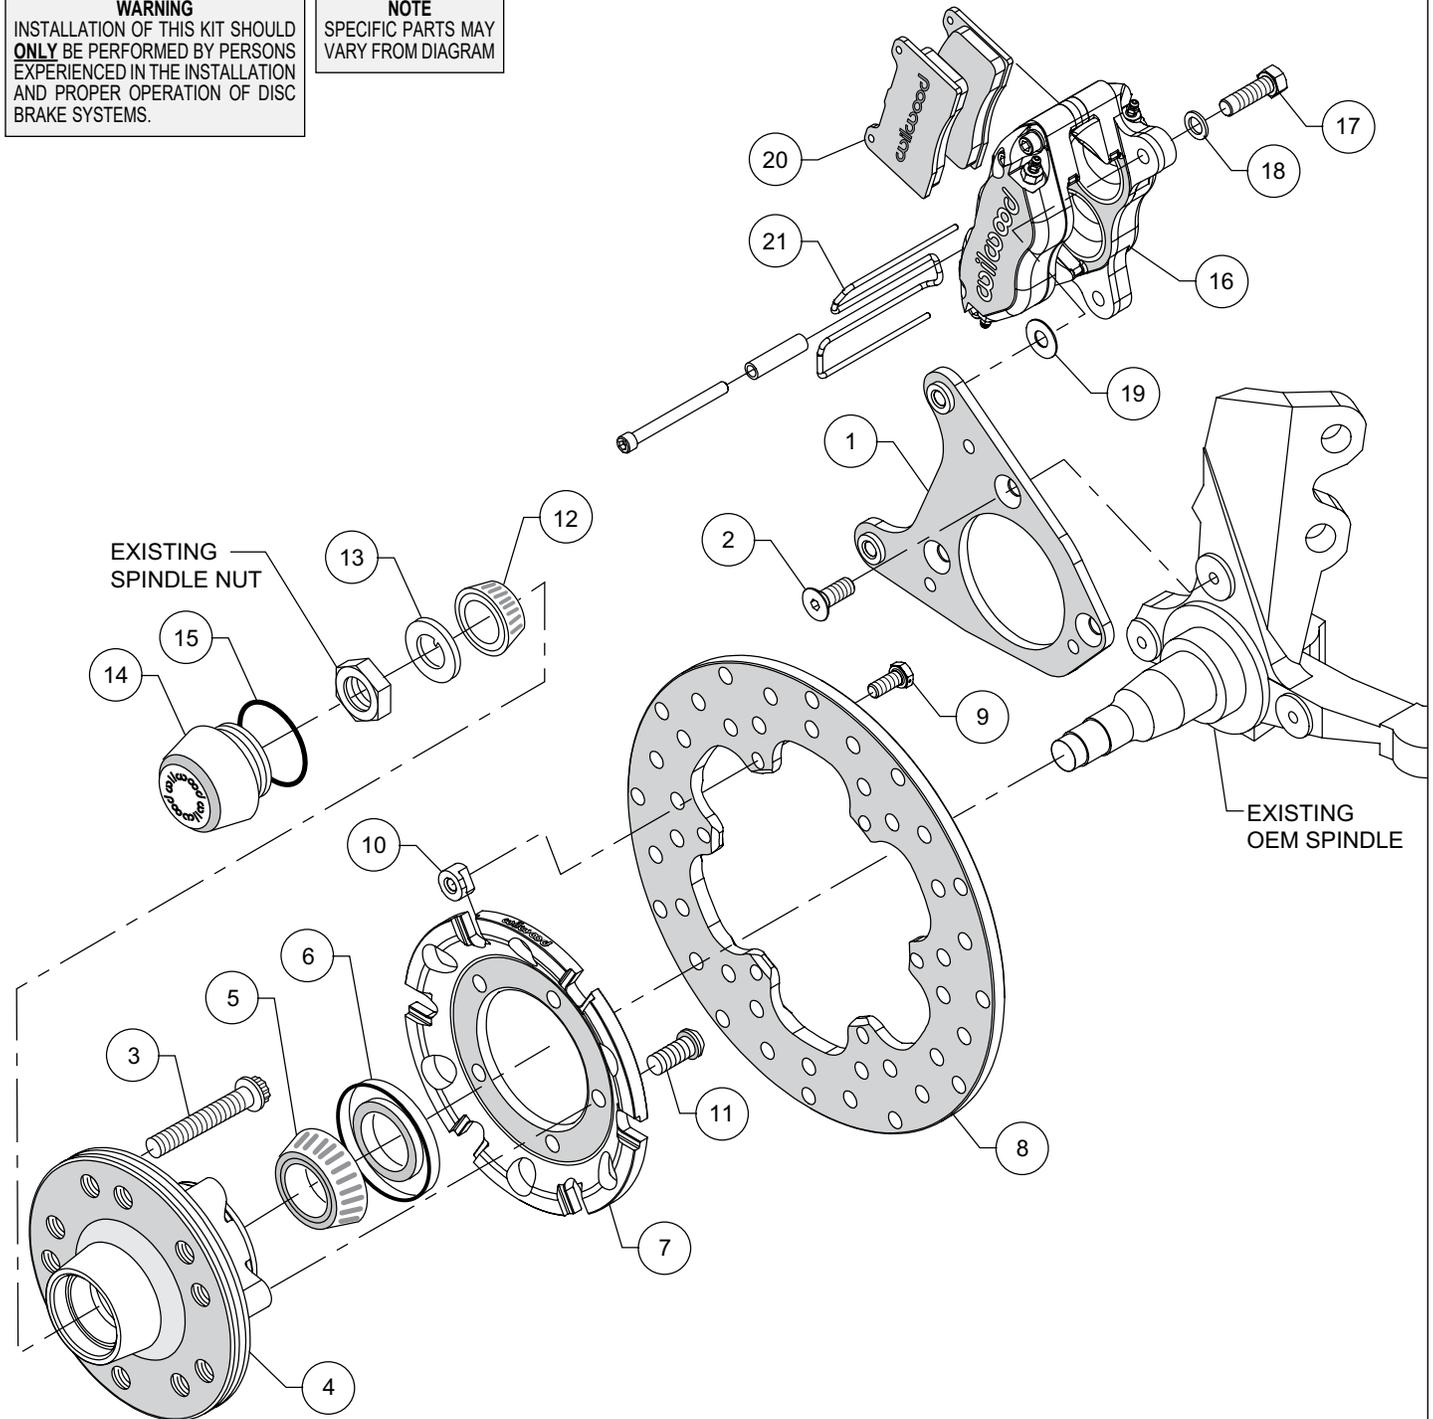
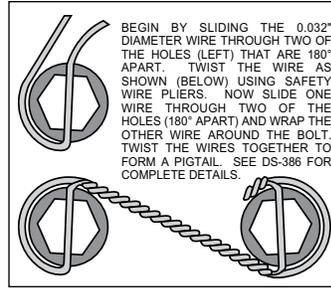

Figure 1. Typical Installation Configuration
Figure 4. Safety Wire Diagram
NOTE: Numbers in parenthesis refer to the parts list and Figure 1 on the preceding pages.
CAUTION: All mounting bolts must fully engage clinch nuts. Be sure to check that all bolts are either flush or protruding through flanged side of clinch nut after shimming, Figure 4.
- Orient the caliper mounting bracket (1) as shown in Figure 1 and Photo 2. Attach using bolts (2), Figure 1. Temporarily tighten the mounting bolts. Ensure that the flanged heads of the clinch nuts in the bracket are facing outboard, Photo 2. **NOTE:** The bracket must fit squarely against the mounting points on the spindle. Inspect for interference from casting irregularities, machining ridges, burrs, etc. Remove bolts one at a time, apply red *Loctite*® 271 to threads and torque to 40 ft-lbs.
- Install wheel studs (3) into the hub (4), Photo 3. Torque to 77 ft-lb. **NOTE:** There are two five lug patterns in the hub (5 x 4.50 and 5 x 4.75). Ensure the correct hub stud pattern is being used to fit the wheel application.
- Pack the large inner bearing cone (5) with high temperature disc brake bearing grease (available from your local auto parts store) and install into the backside of the hub (4), Photo 4.
- Install the grease seal (6) by pressing into the backside of the hub (4), flush with the end of the hub, Photo 4.
- Orient the rotor (8) and the rotor adapter (7) as shown in Figure 1 and Photo 5. Attach the rotor to the adapter using bolts (9) and T-nuts (10). Apply red *Loctite*® 271 to the bolt threads and torque to 220 **in-lb** using a criss-cross pattern. Safety wire bolts using standard 0.032 inch diameter stainless steel safety wire as shown in Figure 3. Refer to Wilwood's data sheet DS-386 (available at www.wilwood.com/Pdf/DataSheets/ds386.pdf) for complete safety wire installation instructions.
- Mount the adapter/rotor assembly (7 and 8) to the hub (4) using bolts (11), as shown in Figure 1 and Photo 6. Using an alternating sequence, apply red *Loctite*® 271 to the threads and torque to 45 ft-lb.
- Pack the small outer bearing cone (12) with high temperature disc brake bearing grease and install into hub (4). Slide the hub/rotor assembly onto the spindle. Secure using spindle washer (13) and OEM spindle nut, Photo 7. Adjust bearings per OEM specifications. Install saved OEM nut lock (if any) and a new cotter pin (not included).
- Screw dust cap (14) into hub (4), Photo 8. Friction created by the o-ring (15) on the dust cap keeps it from unscrewing. **NOTE:** The O.D. of the existing OEM spindle washer may be larger than the I.D. of the dust cap not allowing it to seat against the hub face. Therefore, use the spindle washer (13) supplied with the kit instead of the OEM washer.
- NOTE:** Please reference the caution statement at the beginning of the assembly instructions. Mount the caliper (16) onto the caliper mounting bracket (1) using bolts (17) and washers (18), as shown in Figure 1. Initially place one .035" thick shim (19) on each bolt between the caliper and the bracket, Photo 9. Temporarily tighten the mounting bolts and view the rotor (8) through the top opening of the caliper. The rotor should be centered in the caliper, Photo 10. If not, adjust by adding or subtracting shims (19) between the bracket and the caliper. Always use the same amount of shims on each of the two mounting bolts. **NOTE:** The end of each bolt must be flush with or slightly protruding from the head of the clinch nut, as shown in Figure 4. If necessary place spare shims (19) between washer (18) and caliper mounting ear to achieve the proper clinch nut engagement. Once the caliper alignment and clinch nut engagement are correct, remove the bolts one at a time, apply red *Loctite*® 271 to bolt threads, and torque to 40 ft-lb. For an added measure of security, the bolts may be safety wired using standard 0.032 inch diameter stainless steel safety wire as shown in Figure 3. Refer to Wilwood's data sheet DS-386 (available at www.wilwood.com/Pdf/DataSheets/ds386.pdf) for complete safety wire installation instructions.
- Install the disc brake pads (20) into the caliper, with the friction material facing the rotor (8), Photo 11, and secure in place using pad retainer clip (21), Photo 12.